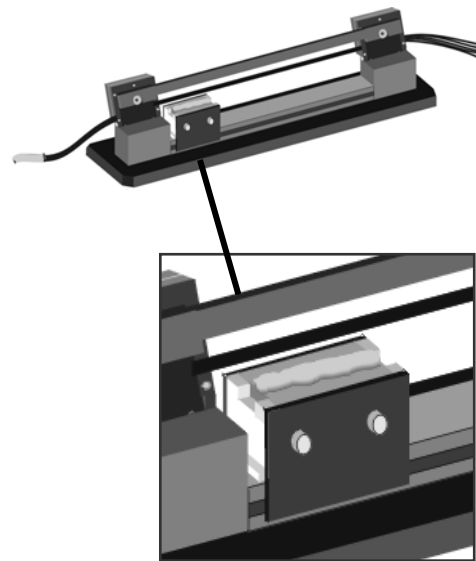

Figure 6. Applying Adhesive
5.06.3 Uncap the adhesive and apply a thin bead ( 1/2 X 3/16 in., 12 X 5 mm) lengthwise along the center of the lower applicator (refer to Figure 6). Once the adhesive is dispensed quickly cap it and set it aside.